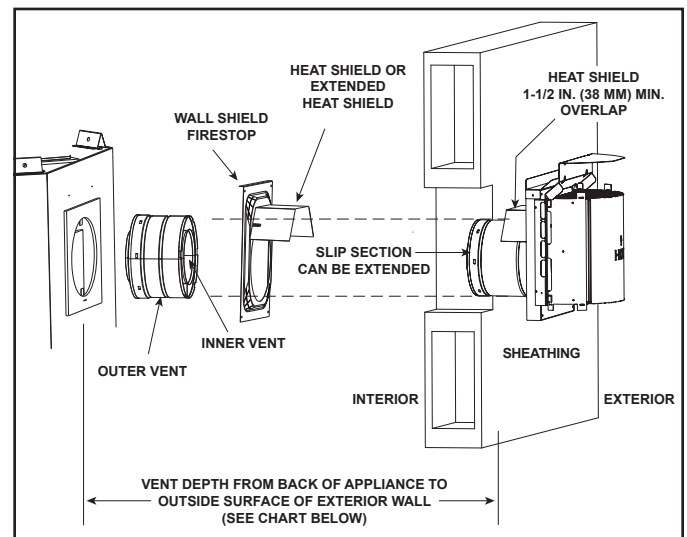

Figure 10.14 Venting Through the Wall
- **DO NOT** remove the heat shields attached to the wall shield firestop and the horizontal termination cap shown in Figure 10.14.